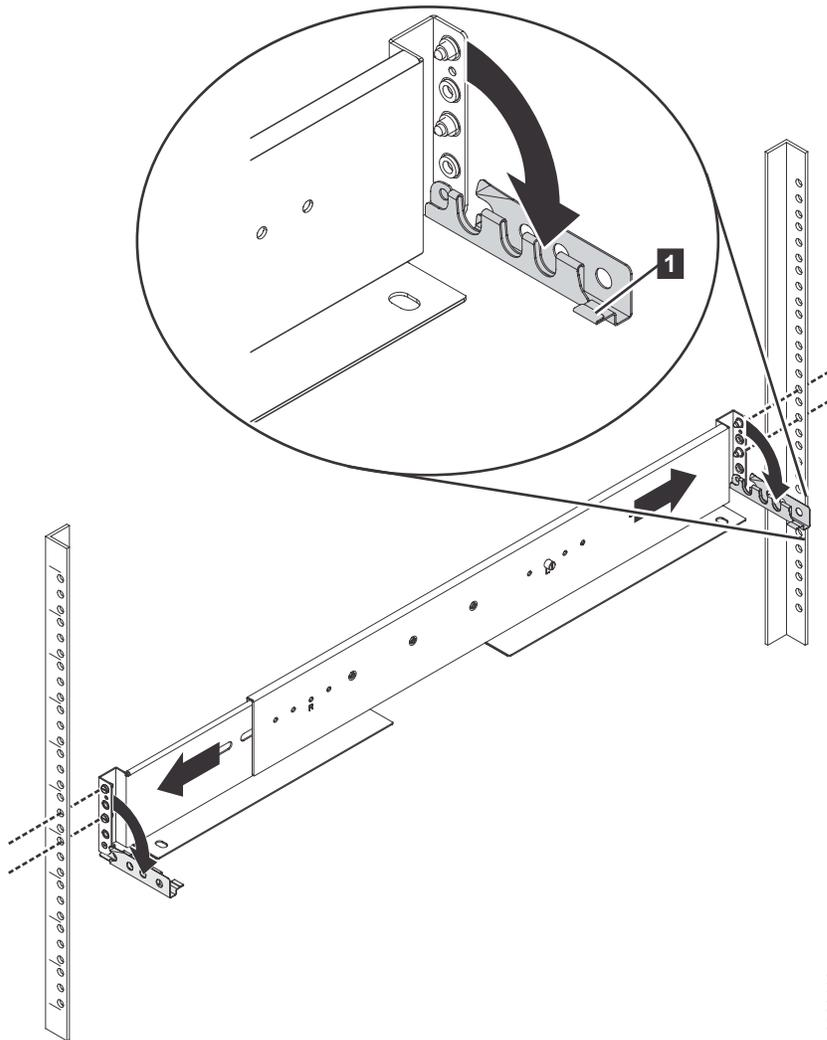

Figure 10. Opening the hinge brackets
5. At each end of the rail, grasp the tab **1** and pull *firmly* to open the hinge bracket (see Figure 10).